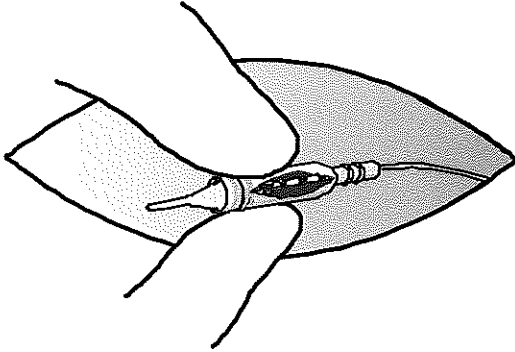

Figure 35: Hold setscrew connector block between thumb and forefinger.
5. Hold the setscrew connector block firmly between thumb and forefinger to prevent rotation (Figure 35).